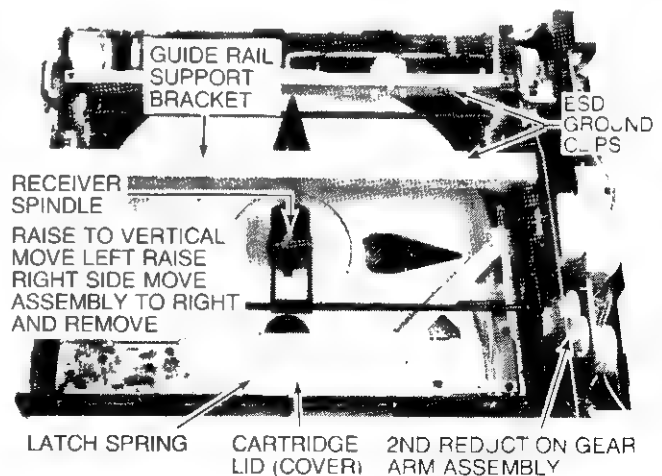

Fig. 14—Stylus Cartridge and Receiver Spindle
- 1 If cabinet top has been removed remove receiver spindle assembly (Fig. 14), also remove stylus car-
2. Using thumb—rotate 2nd reduction gear (Fig. 14) in counter clockwise direction moving the arm assembly to a point where the stylus cartridge access cover (lid) is accessible.
1. With cabinet top removed—rotate receiver spindle assembly to a vertical position (Fig. 14)